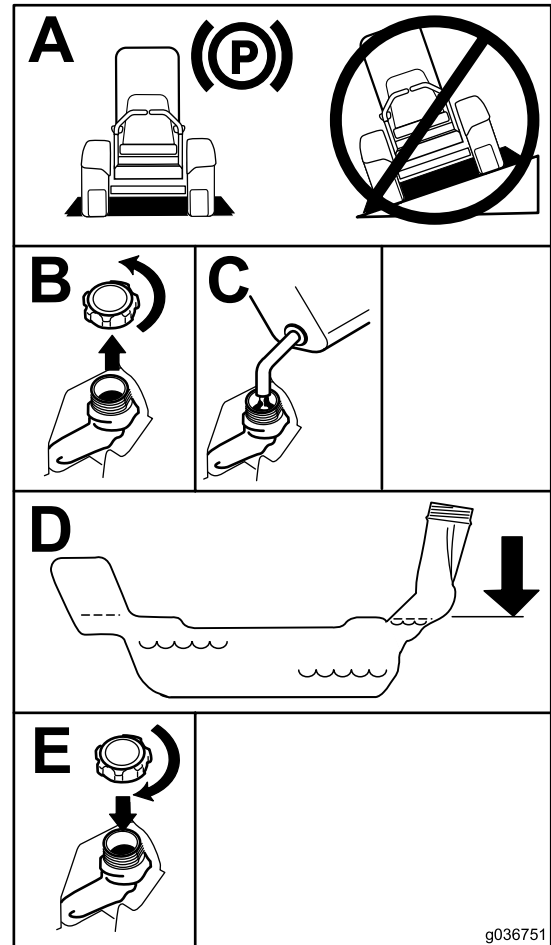

Figure 7
- Ensure that there is empty space in the tank to allow the gasoline to expand (Figure 7).